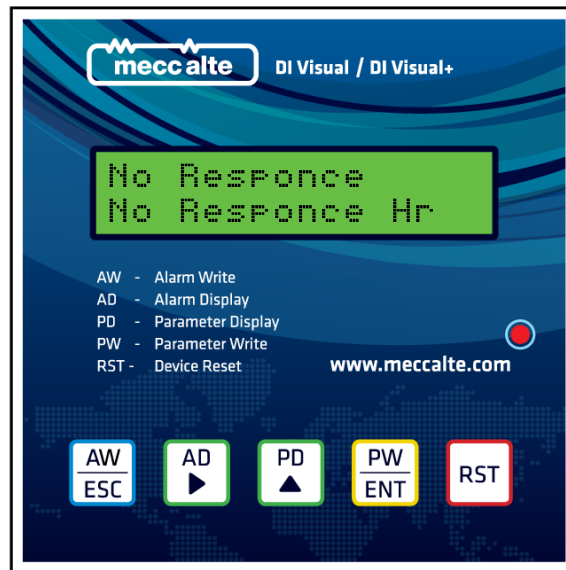

fig. 4
- 2) If the DI-Visual+ is connected to DSR and the changed address is proper then normal screen with Voltage, Frequency and Time parameter will appear on LCD. If the communication is failed with DSR a “No response” message will appear on LCD as shown in Fig. 4.